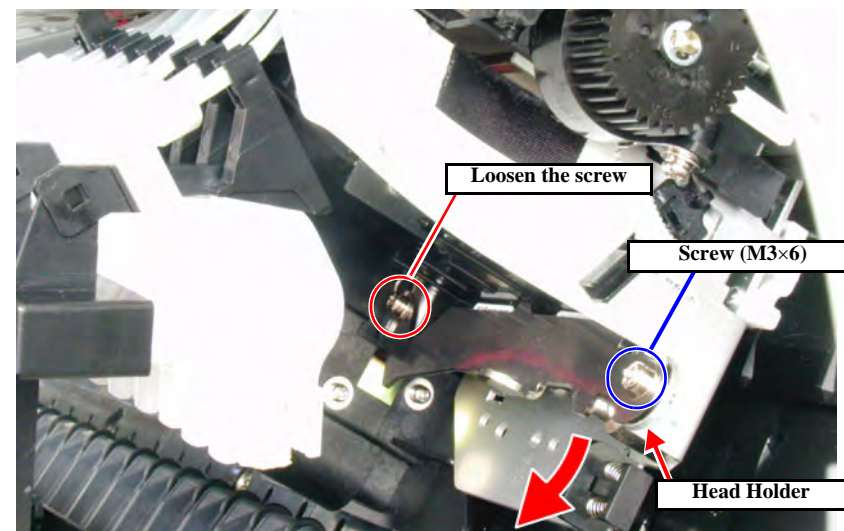

Figure 4-26. Head Holder Release
4. Loosen the left screw for the Head Holder, remove the right screw (M3×6) and release the Head Holder downward. (See Figure 4-26)